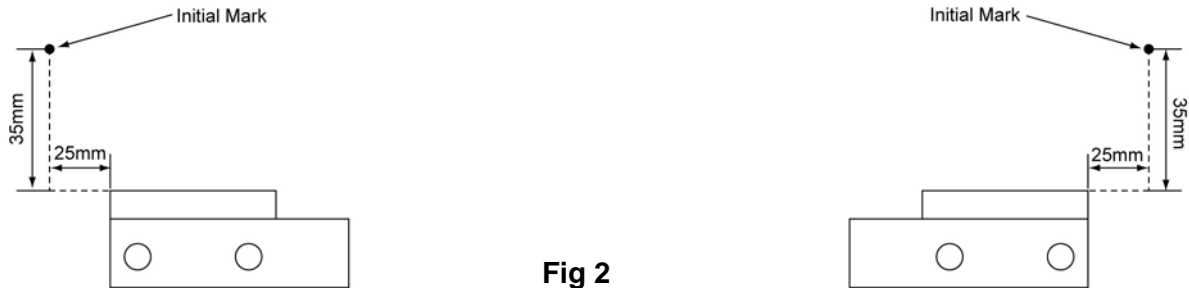

Fig 2
2. Hold the cabinet up to the wall in its desired location and make a mark where the top two corners of the carcass meet the wall (see Fig 2). Use a spirit level to make sure that the cabinet is level when doing this.
4. From the two points that you have just made on the wall measure down 35mm and in 25mm to find the positions of the wall brackets (see Fig 2).